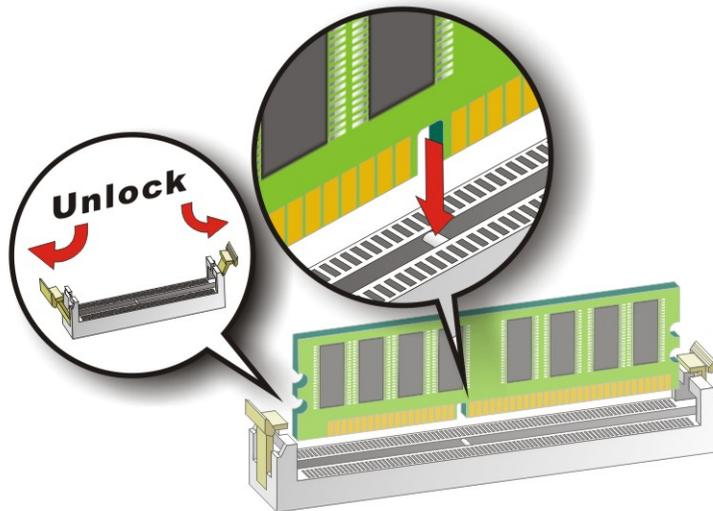

Figure 8-15: DIMM Installation
Step 3: Insert the new DIMM. Properly align the DIMM pins with the socket and the gently push the DIMM into the DIMM socket until the white side handles close (**Figure 8-15**).